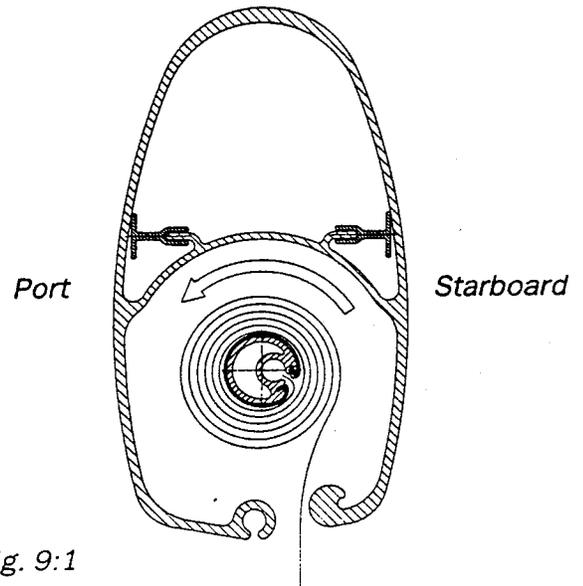

Fig. 9:1
- 8 Furl the sail until only the clew is exposed. The luff extrusion is asymmetrical to facilitate rolling in one direction, and the sail should always be rolled onto the starboard side of the luff extrusion. The Reefing Winch should be turned clockwise. See Fig. 9:1.
- 1 Check that the sail is correctly furled on the STARBOARD SIDE of the luff extrusion. (See Fig. 9:1).